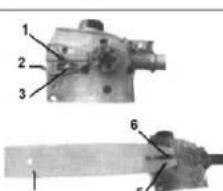

Fig. PP3
2. Place the guide bar over the guide bar adjustment stud on the cutting head assembly. Align the chain tensioning pin with the hole in the guide bar. See Fig.PP3